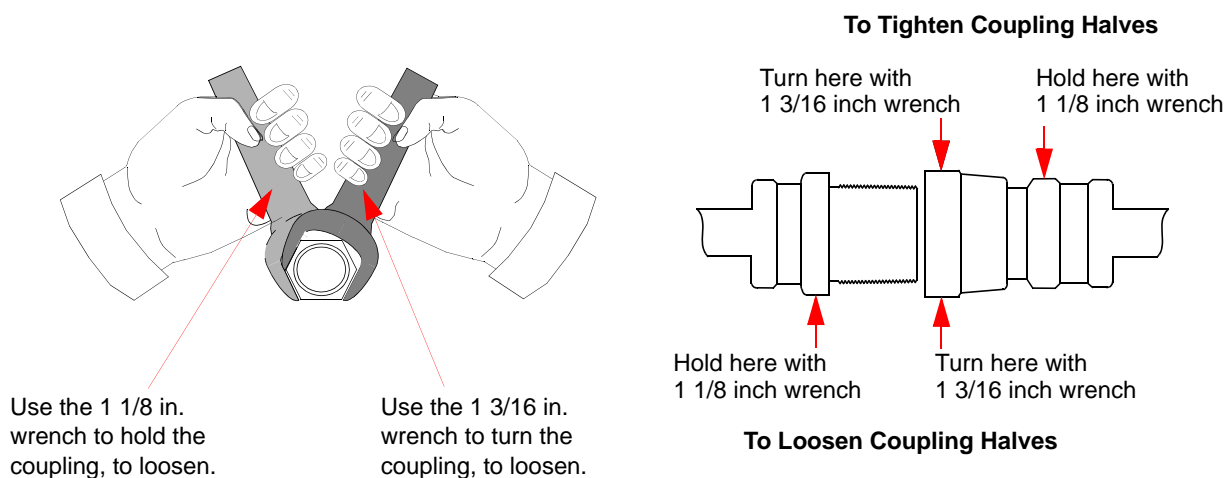

Figure 4-4: Connecting/Disconnecting Helium Flex Line Couplings
<div data-bbox="938 493 1123 541">CAUTION</div> <div data-bbox="878 569 1174 604">Equipment Damage</div> <p>To avoid damaging o-rings and creating a helium leak, follow the procedure in this section, including <a href="#">Figure 4-4 on page 4-12</a>.</p>
3. Connect one end of the Helium Supply Line to the Helium Supply connector on the rear of the 8600 Compressor, and connect the other end to the Gas Supply connector on the 20HP Cryopump. Tighten the connection by using a 1 1/8-inch wrench to hold the coupling stationary and a 1 3/16-inch wrench to tighten the self-sealing coupling connector as shown in Figure 4-4.
3. Disconnect the two self-sealing coupling connectors quickly to minimize helium leakage by using a 1 1/8-inch wrench to hold the coupling stationary, and use a 1 3/16-inch wrench to loosen the self-sealing coupling connector as shown in Figure 4-4 on page 4-12.